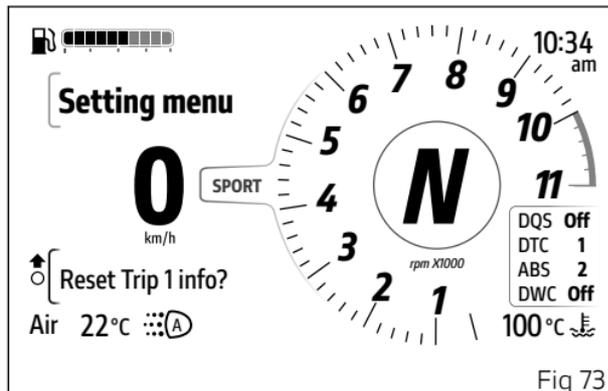

Fig 73
The trip information "Trip 1", "Ø cons.1", "Ø speed 1" and "Trip 1 time", when selected, can be reset by pressing the ENTER button (3): the message "Reset Trip 1 info?" is displayed (Fig 73).